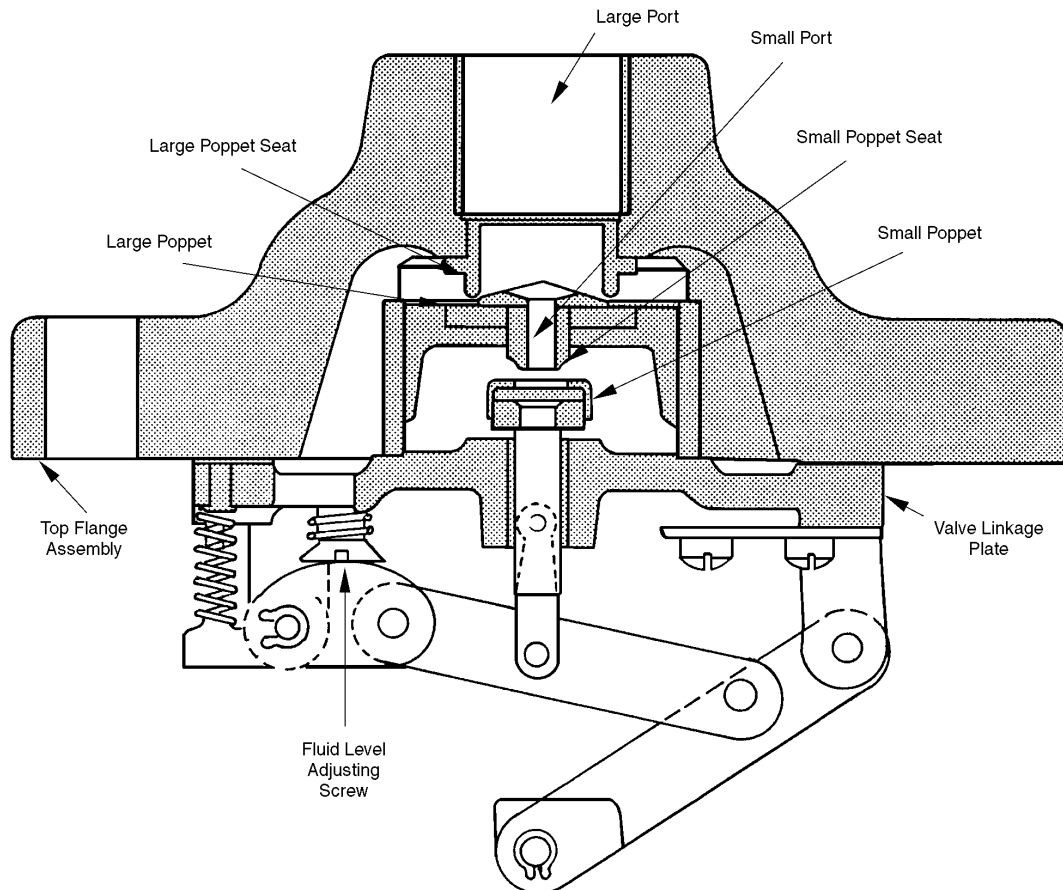

Figure 1 – Type UB Air Release Head
4. When the air has vented from the air eliminator, the float will rise with the liquid level and will close the small poppet. This will cause a build up of pressure under the large poppet. Because of this differential in pressure and the float rising, the large poppet will close. (See Figure 1.)
This assembly only has one adjusting screw for the float height. See Figure 1. Adjusting the screw clockwise raises the fluid level and counterclockwise will lower the float level.